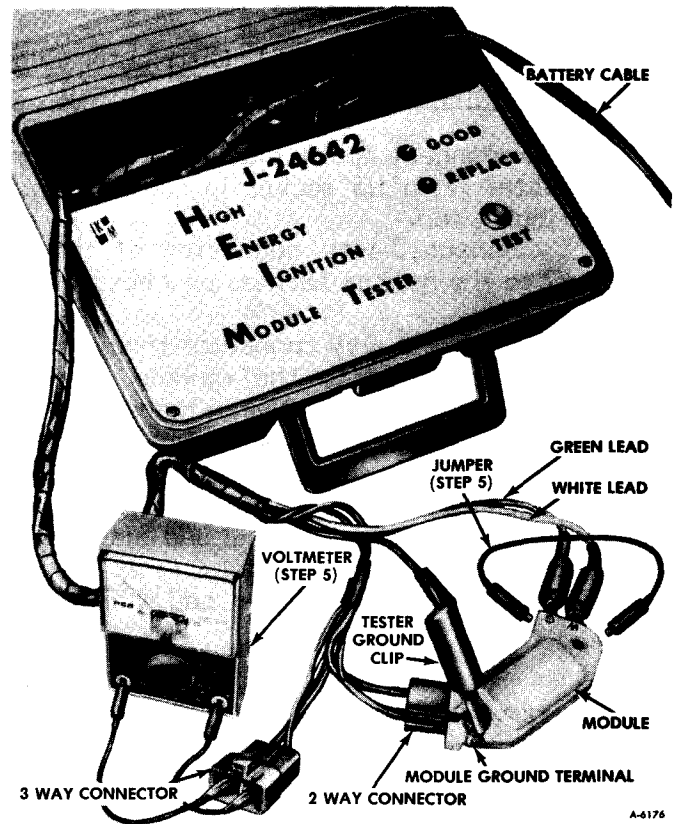

Figure 22—Test No. 3, Using Tool J-24642
(Figure 22)
5. Perform steps 10 and 11 of TEST 1, except connect the voltmeter in this check to the 3-way connector, as shown in figure 22.